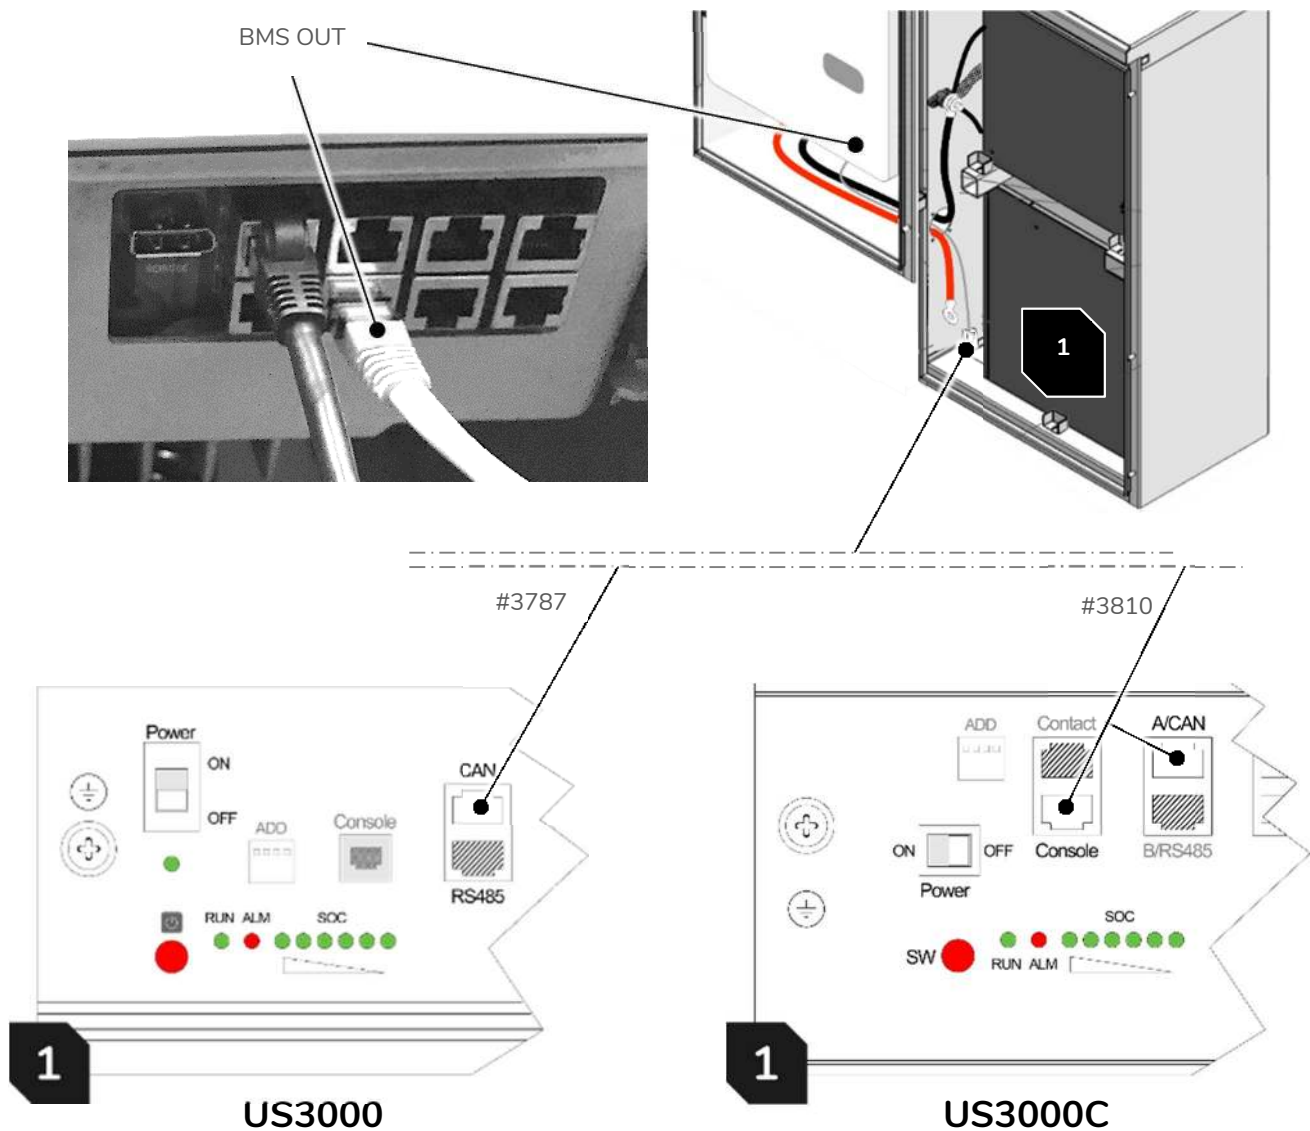

Figure 11: PCS to BMS communication cable connection.
1. Terminate the PCS-BMS cable in battery #1 as shown in figure 11. This battery is herein referred to as the “Master” battery module. All other modules sync to the master.
2. Route the other end of the cable through the PCS port hole and terminate in the cable in the [BMS OUT] port as shown in figure 11.